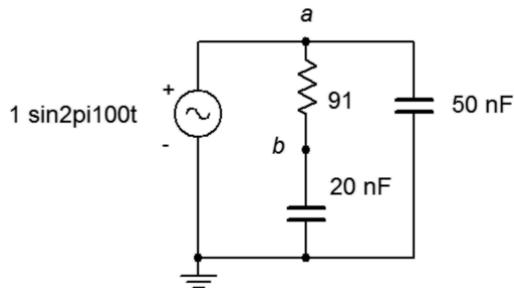

Figure 5.21
41. For the circuit of Figure 5.21, determine the Thévenin equivalent that drives the  $20\ \text{nF}$  capacitor.
42. Given the circuit of Figure 5.21, determine the Norton equivalent that drives the  $20\ \text{nF}$  capacitor.